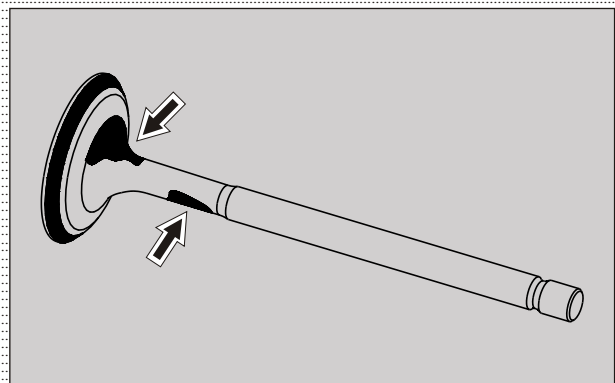

Fig. 2.42
- Carbon deposits on valve stem (Fig. 2.42) rubs continuously on guide valve and this will result in increased clearance between the valve and guide valve.